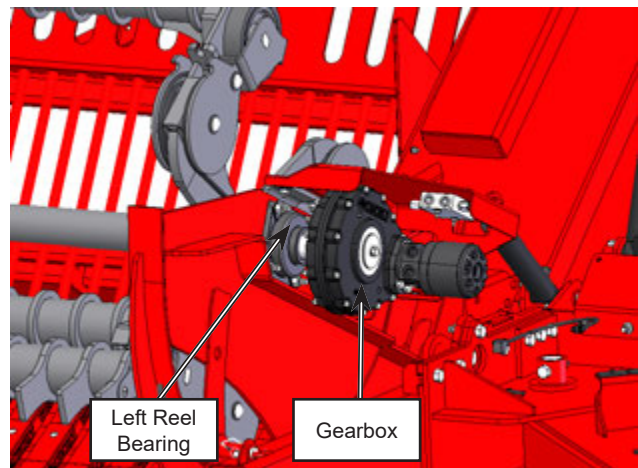

Figure 7.12: Grease reel bearings;
1. Lubricate the right and left reel bearings; see *Figure 7.12*.
2. If rock picking is complete for the season, change the oil in the gearbox; see *Figure 7.12*.